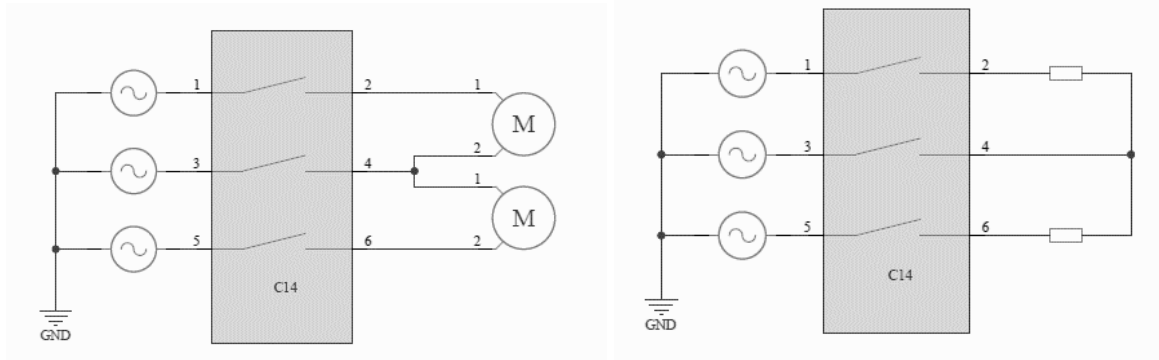

Figure 2 Possible applications 3-phase without neutral line
- In the case of 1-phase loads without neutral line (Fig. 2), it must be ensured that all phases involved in the current flow are controlled in order to avoid unintentional faults. Furthermore, the return line can be chosen arbitrarily, it is not mandatory to use phase 2.